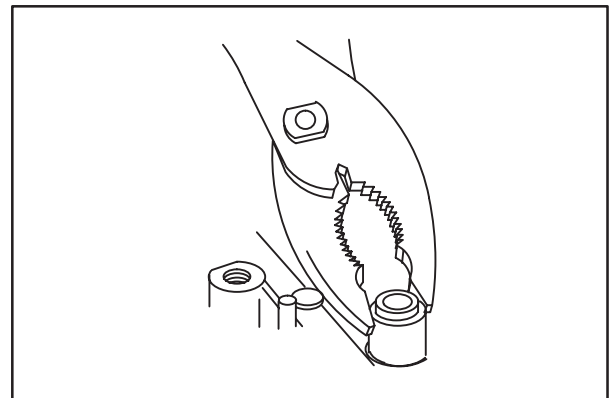

Fig. 8
6. Remove and discard valve stem seals, Fig. 8.